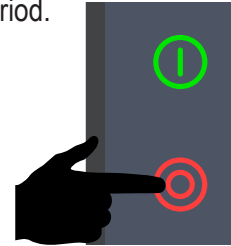

Figure 66. Stop Button
6. Press the **Stop button** (Figure 66) on the digital controller. The engine will shut down after a 60-second cool-down period.